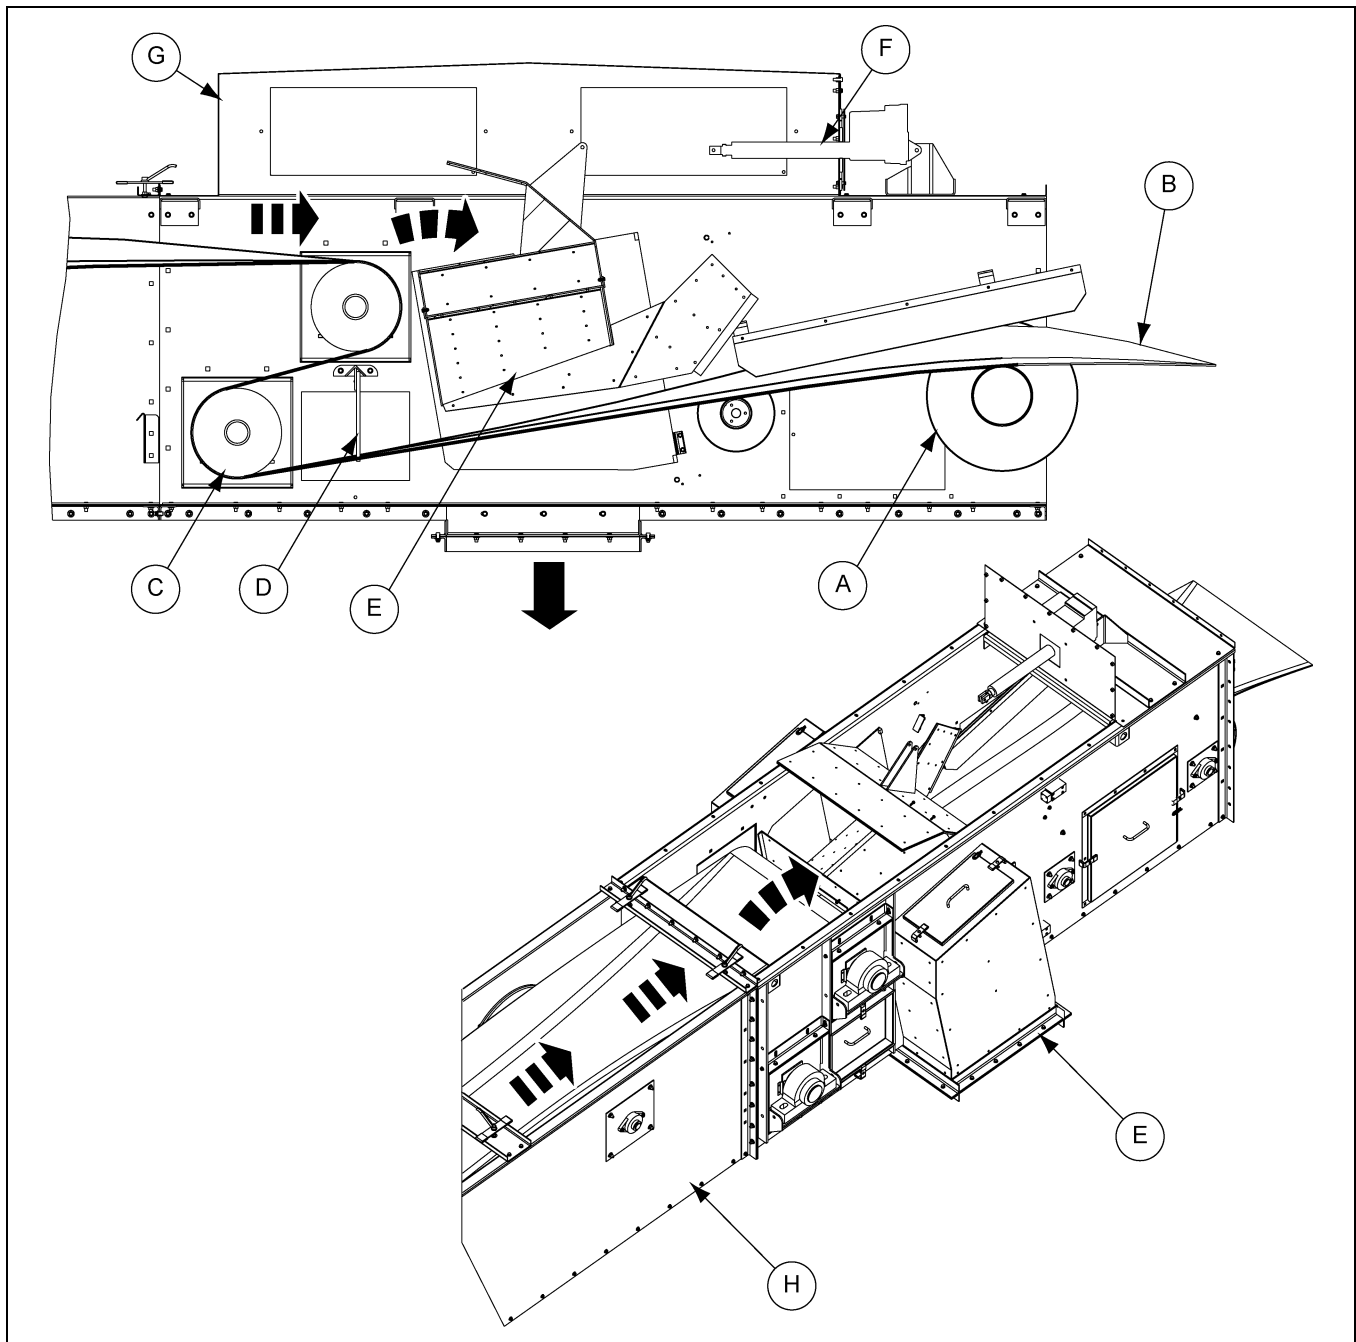

Figure 4B
5. When the tripper is activated, the grain flow is disrupted and makes the grain flow through the diverter (E) and is discharged on the either side of the discharge cavity. (See Figure 4B.)